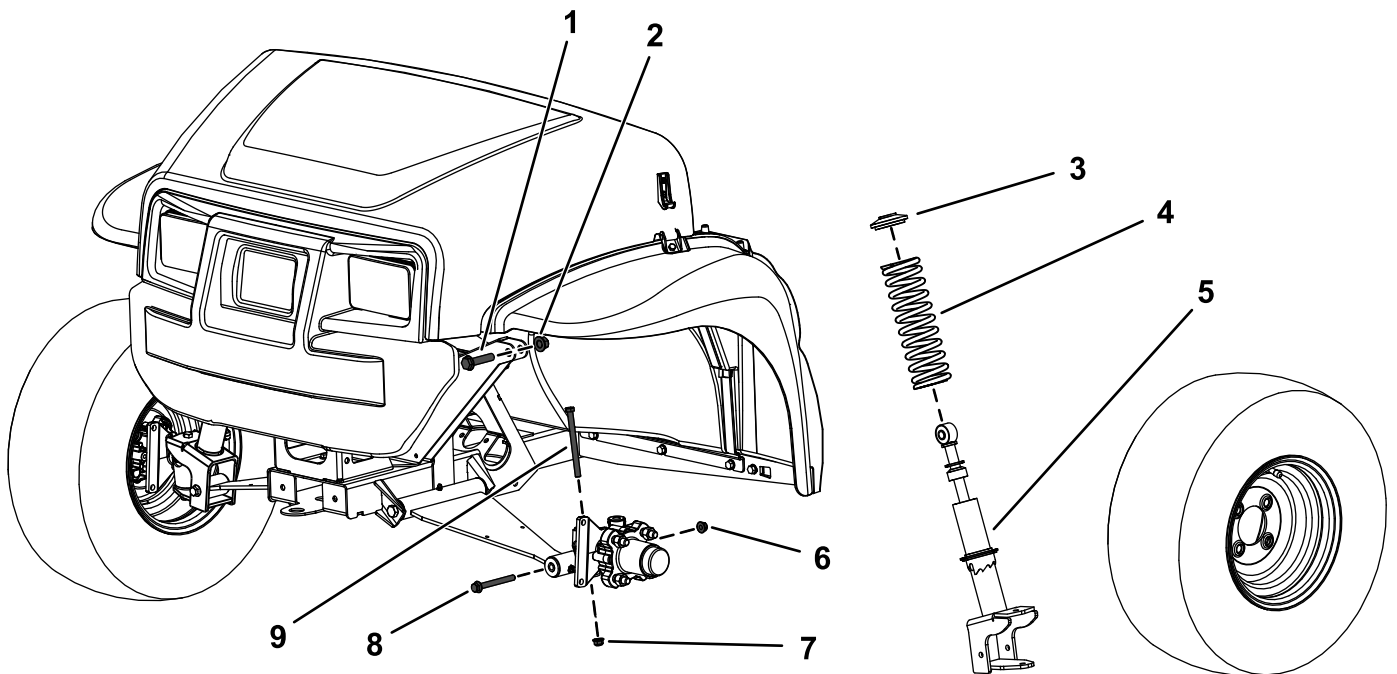

Figure 1
3. Remove the hex-head bolt (3/8 x 4-3/4 inches) and flange nut (3/8 inch) from the spindle (Figure 1).
4. Remove the hex-head bolt (3/8 x 3-1/2 inches) and flange nut (3/8 inch) from the control arm (Figure 1).
5. Remove the hex-head bolt (1/2 x 2-1/4 inches) and locknut (1/2 inch) securing the strut assembly to the upper frame (Figure 1).
6. Remove the strut assembly (Figure 1).
3. Remove the spring from the strut assembly (Figure 1).
4. Install the new spring over the existing strut assembly (Figure 1).
2. Secure the upper portion of the strut assembly to the frame using the upper, hex-head bolt (1/2 x 2-1/4 inches) and locknut (1/2 inch) as shown in Figure 1.
4. Install the hex-head bolt (3/8 x 4-3/4 inches) and flange nut (3/8 inch) to the spindle (Figure 1).
6. Secure the lower portion of the strut assembly to the control arm using the hex-head bolt (3/8 x 3-1/2 inches) and flange nut (3/8 inch) as shown in Figure 1.